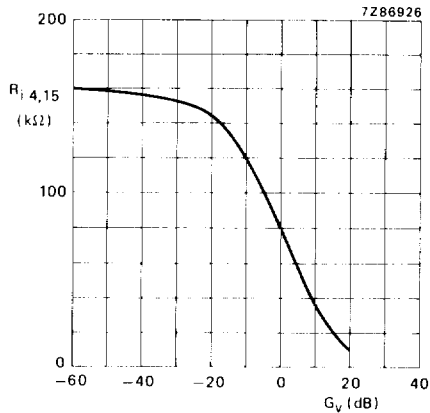

Fig.3 Input resistance (R_i) as a function of gain of volume control (G_v). Measured in Fig.1.
1. Equation for input resistance (see also Fig. 3)